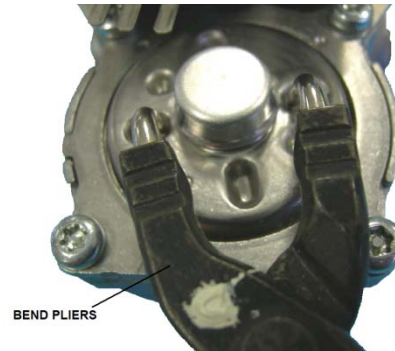

FIGURE 6
- Position a pair of bend pliers into the slots of the cover dial. See Figure 6.